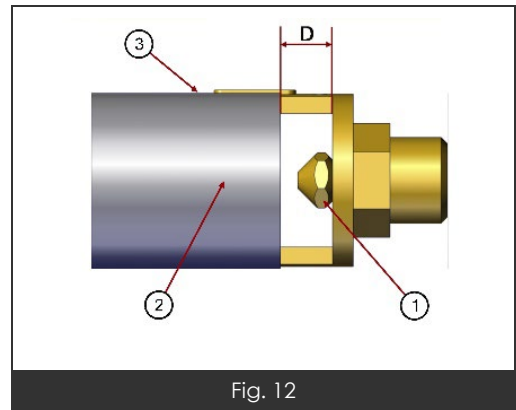

Fig. 12
- Release the air sleeve (Fig. 12 Item 3)
- Remove the injector (Fig.12 Item 2), replace it with the desired injector according to the table above (paragraph 4.1)
- Adjust the distance 'd' (Fig. 12) according to the data in the table above (paragraph 4.1)